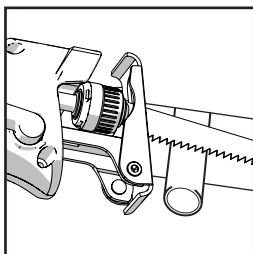

Fig. 11
- Cut through the workpiece slowly allowing the flexible blade to curve as required. **(Fig. 11)**.